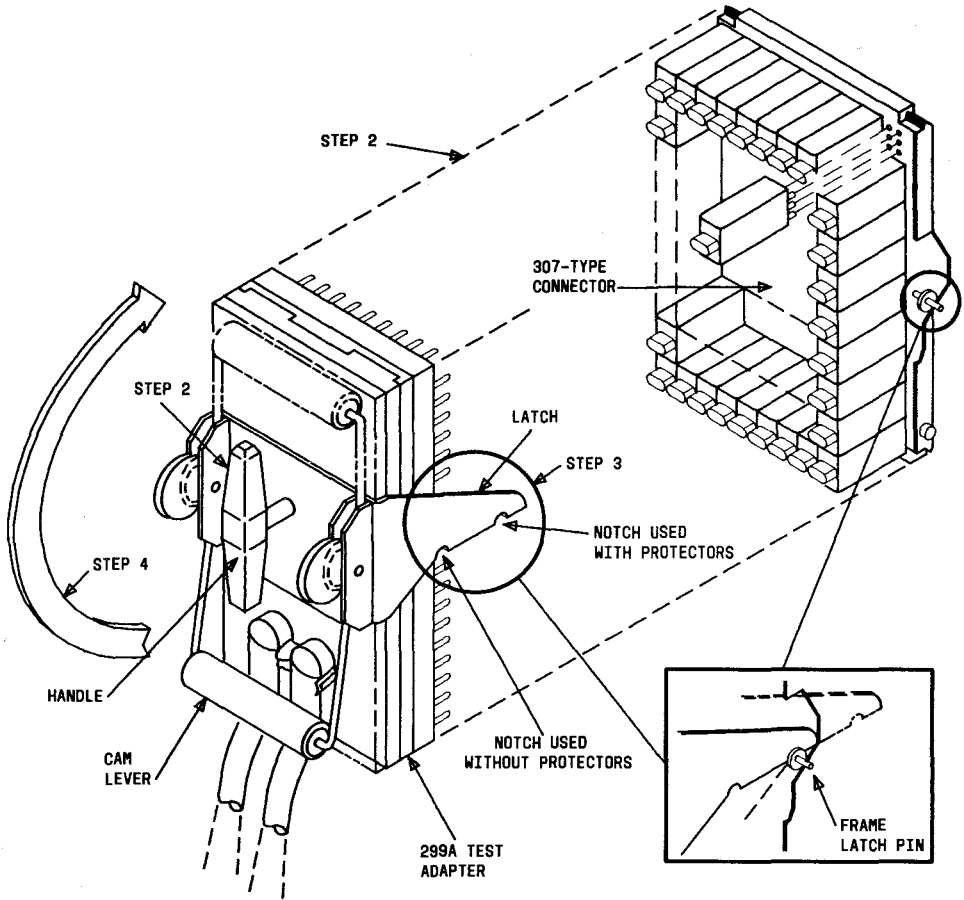

Fig. 17—Mounting 299A Test Adapter on 307-Type Connector
3.07 The 299A test adapter (Fig. 16) is mounted on the 307-type connector and tested as shown in Fig. 17 and 18.
1	See Fig. 17 for numbers that correspond to the following steps.